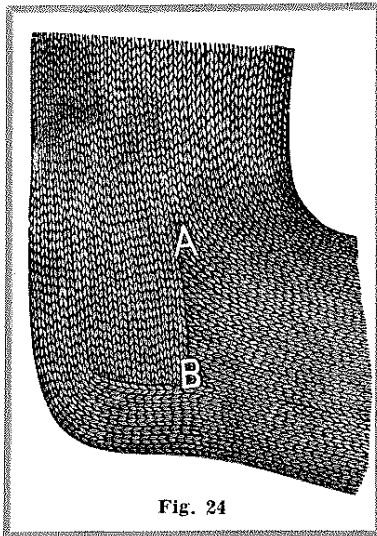

Fig. 24
27.—To knit a heel with a gore, as in Fig. 24, proceed from this point as follows:—